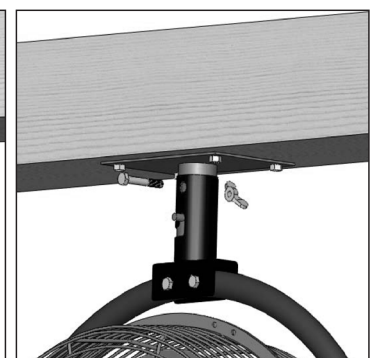

Figure 6:
4. Rotate the entire fan so the safety pin locks into place and the holes on the Mounting Post line up with the holes on the Connector Bracket. (See Figure 6)
5. Insert the Base Knob through the Mounting Post and Connector Bracket and tighten firmly with the Wing Nut (See Figure 6)